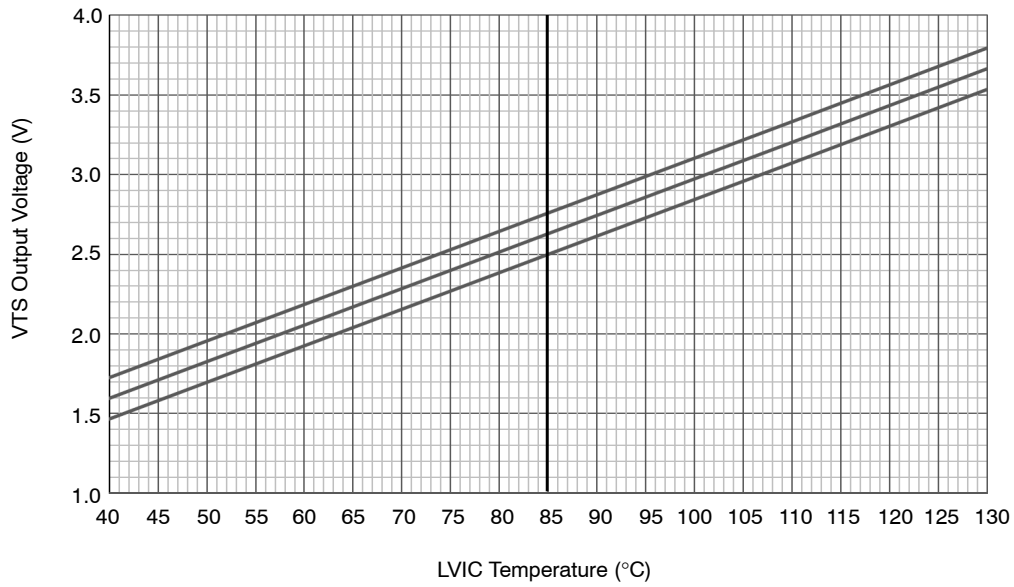
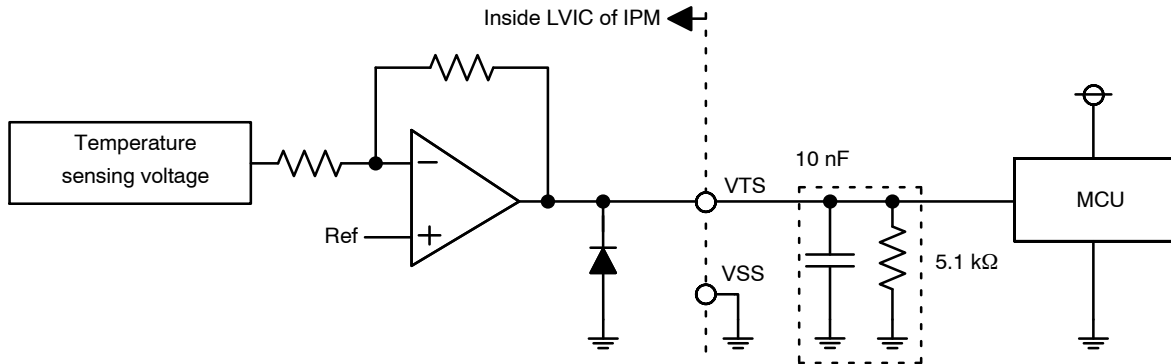

Figure 4. Temperature of LVIC vs. VTS Characteristics
Figure 5. Internal Block Diagram and Interface Circuit of VTS
- TLVIC is the temperature of LVIC itself. VTS is only for sensing temperature of LVIC and cannot shutdown IGBTs automatically. The relationship between VTS voltage output and LVIC temperature is described in *Figure 4*. It is recommended to add 5.1 kΩ pull down resistor between VTS and VSS (Signal Ground) as described in *Figure 5* for linear output characteristics at low temperature. Refer to the application note for usage of VTS.